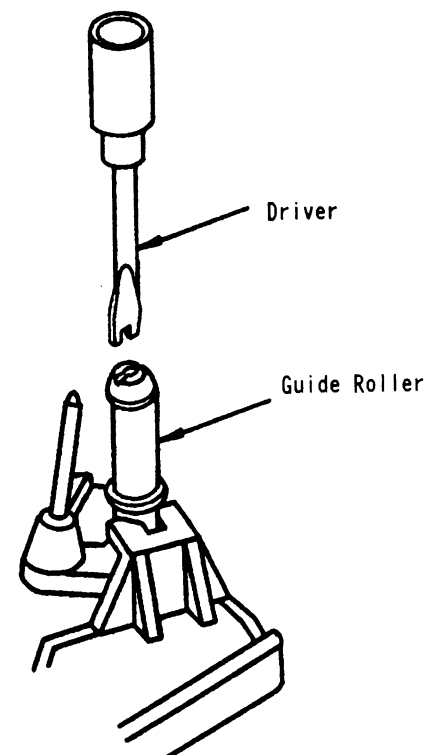

Fig. 5
7. Next, adjust the guide roller height. Insert the adjustment driver into the guide roller top. (Refer to Fig. 5.)